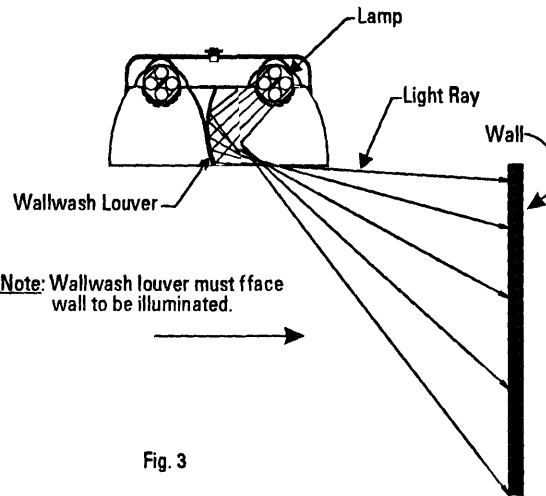

Fig. 3
- The AFZW trim has one louver that is formed for a wallwash application as shown in Fig. 3. This louver must be positioned so that light will be directed to the wall to be illuminated.